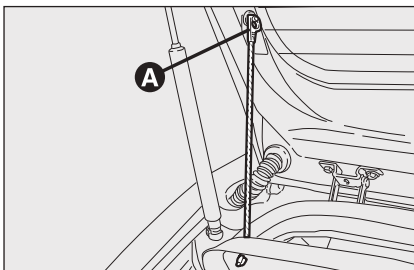
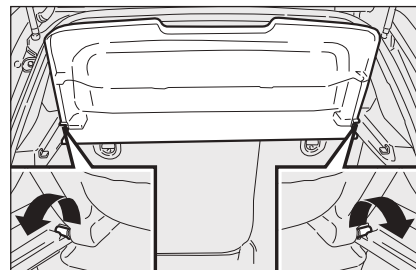

fig. 86
fig. 87
- IMPORTANT** If, after tilting the rear seat, you have to remove the parcel shelf, position it as shown in **fig. 86**.
To remove the parcel shelf in order to extend the boot: release the upper ends **A**-fig. 86 by removing the eyelets from the pins, unhook and swivel the parcel shelf in its seat and then release both pins **fig. 87** from the side holes.